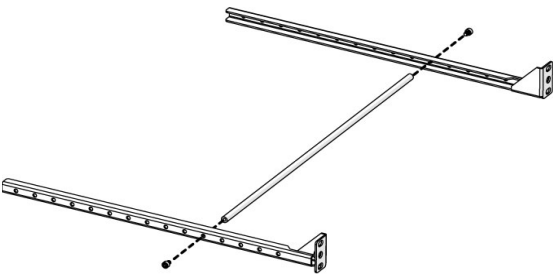
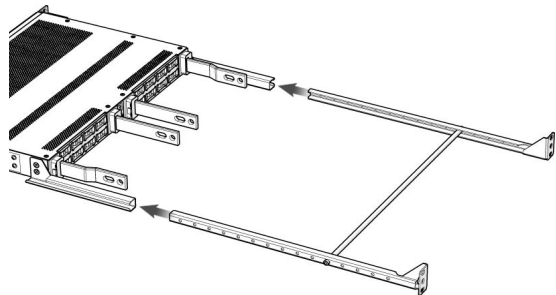

Figure 5. Rear Support Rail & Lacing Bar
Figure 6. Insert Rear Support Rail & Lacing Bar
**Step 2.** Align each rear support rail as shown in Figure 5. Select a hole position for the lacing bar and secure to each rear support rail using the included #10-32 hardware, then insert the rear support rail assembly into the rear support brackets as shown in Figure 6. Secure the ears of the rear rack support assembly to a rack using the included 1/4"-20 hardware.